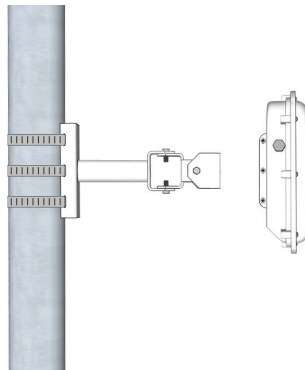

Figure 1.3 – Attaching the Sensor to the Mount Bracket
- 3 Thread on the nuts and tighten (see Figure 1.3).